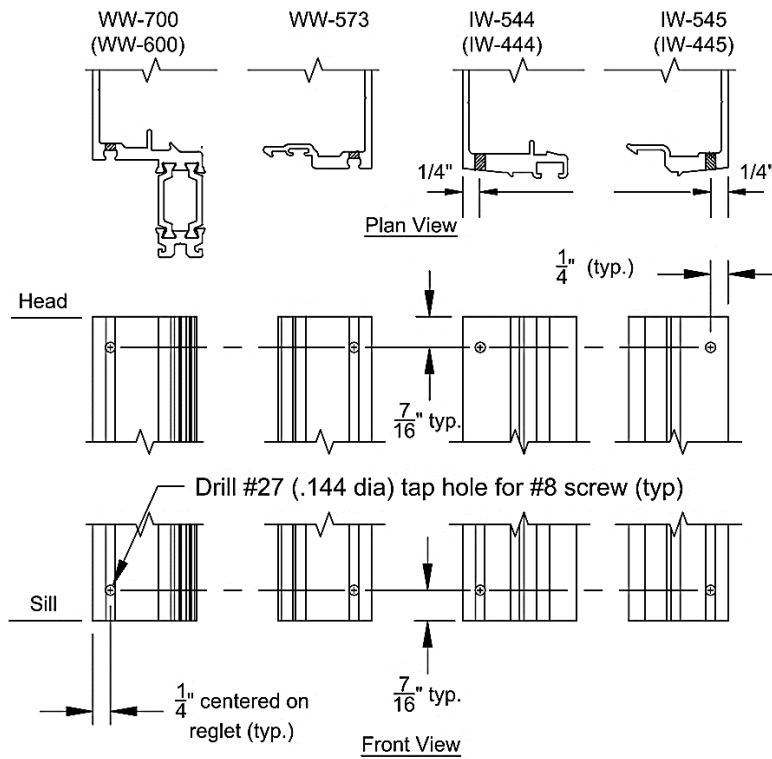

Figure 3: Vertical Prep for Mull Caps
- 3.1 Fabricate vertical mullions for horizontal members with EZ Punch tooling or **DJ-105 drill jig**. When using the drill jig, drill holes 'A' and 'B' for the 7 1/4" system and 'A' and 'C' for the 6" system. Use 'F' drill (.257 dia.) for assembly screws. Drill all four holes. **See FIGURE 2.** When working from horizontal centerlines, align the slot milled into the drill jig with the centerline. Drill (1) 5/16" diameter weep hole at face of captured mullions, 1/2" from the bottom of each mullion. **See FIGURE 3.**
- 3.2 Drill a #29 (.136 dia.) hole at top and bottom in each half of the intermediate vertical mullions for the mullion cap. **See FIGURE 3.**